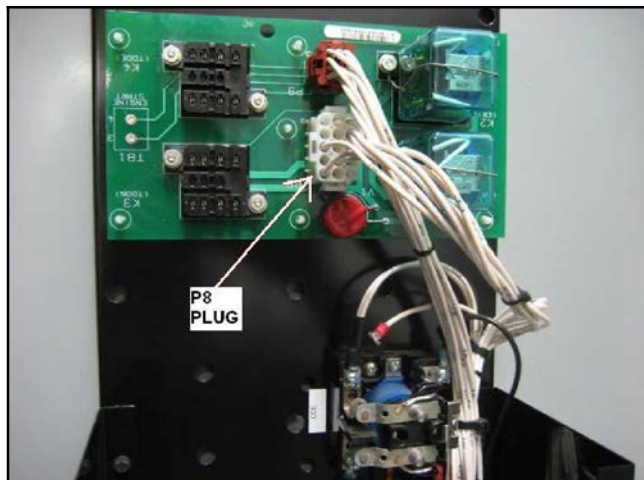

Figure 43 Disconnect Plug P8
38. Disconnect plug P8 from the upper board. See Figure 43.